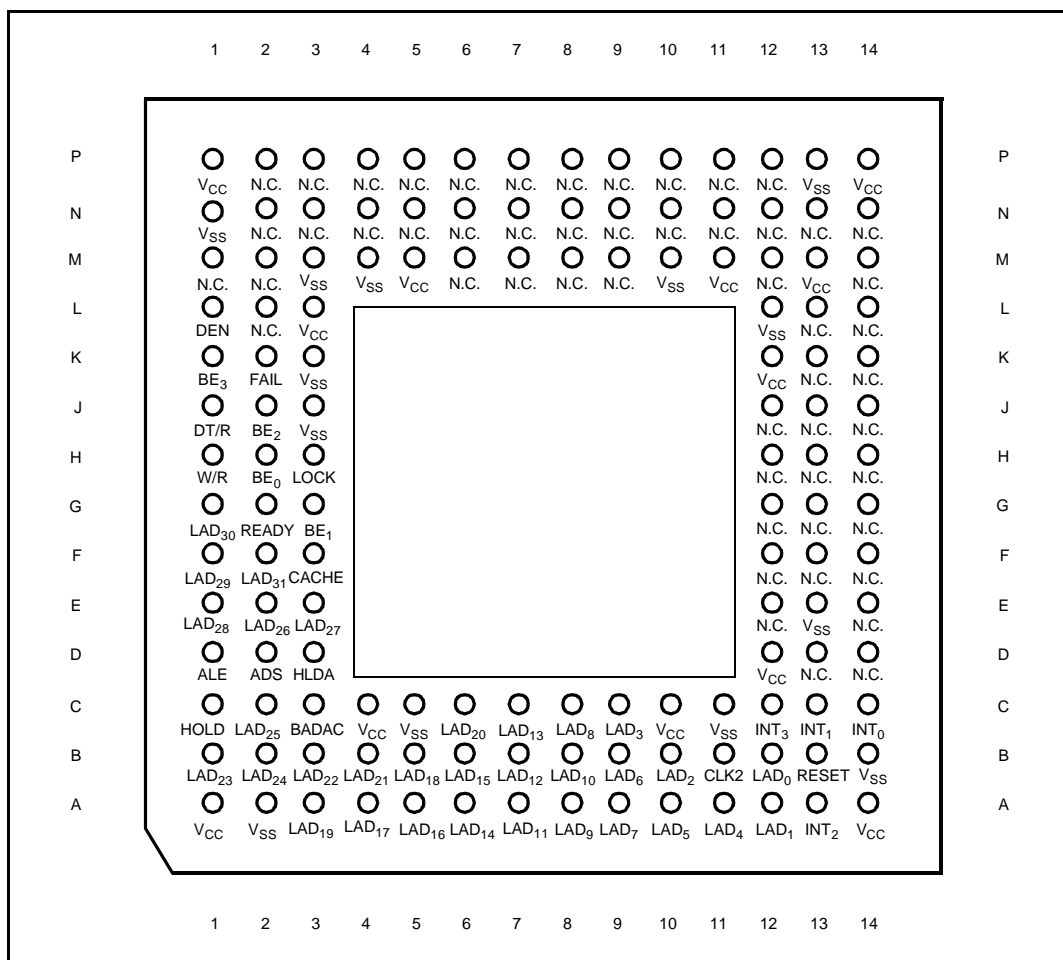
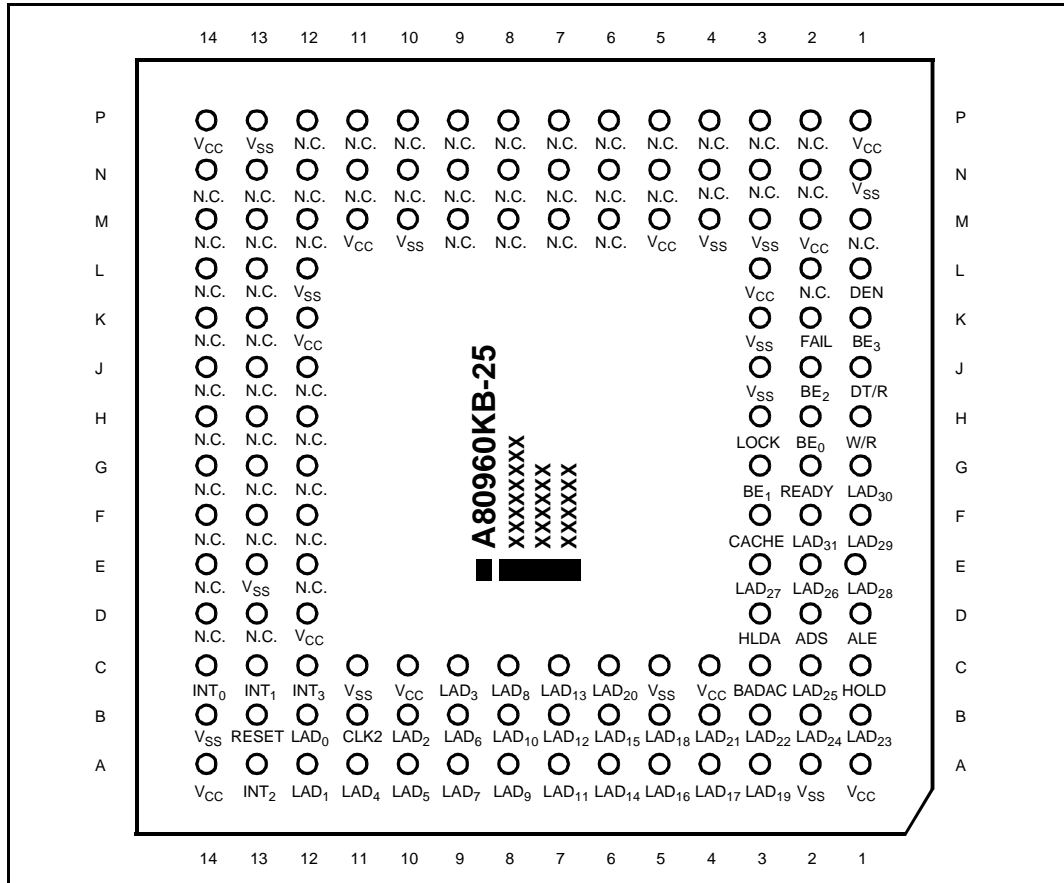
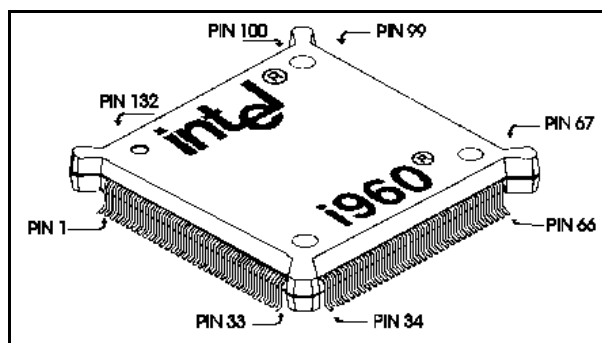
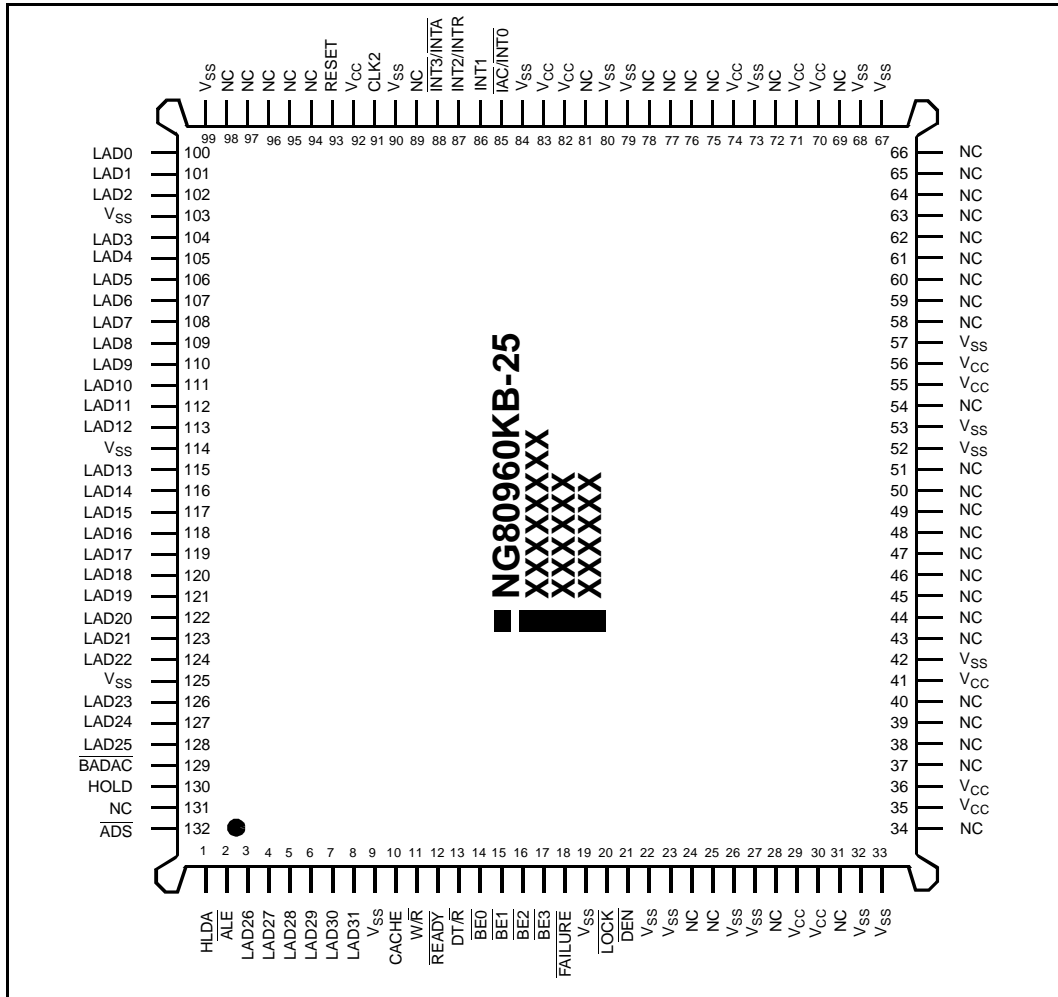

Figure 18. 80960KB PGA Pinout—View from Bottom (Pins Facing Up)
Figure 19. 80960KB PGA Pinout—View from Top (Pins Facing Down)
Figure 20. 80960KB 132-Lead Plastic Quad Flat-Pack (PQFP) Package
Figure 21. PQFP Pinout - View From Top
- 132-lead plastic quad flat pack (PQFP). This package uses fine-pitch gull wing leads arranged in a single row along the package perimeter with 0.025 inch (0.64 mm) spacing (see Figure 20).
The PGA and PQFP have different pin assignments. Figure 18 shows the view from the PGA bottom (pins facing up) and Figure 19 shows a view from the PGA top (pins facing down). Figure 20 shows the PQFP package; Figure 21 shows the PQFP pinout with signal names. Notice that the pins are numbered in order from 1 to 132 around the package perimeter. Table 10 and Table 11 list the function of each PGA pin; Table 12 and Table 13 list the function of each PQFP pin.